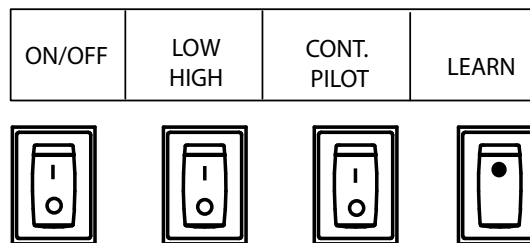

Fig. 37 Control panel rocker switches
1. Push the “I” on the rocker switch to turn ON (Ignite). System will take approximately 7-10 seconds before ignition after the gas line is purged. See Fig. 37. The main flame ignites (defaults) in the HIGH position. Press the “I” on the LOW/HIGH button to adjust to the LOW flame setting, if desired.